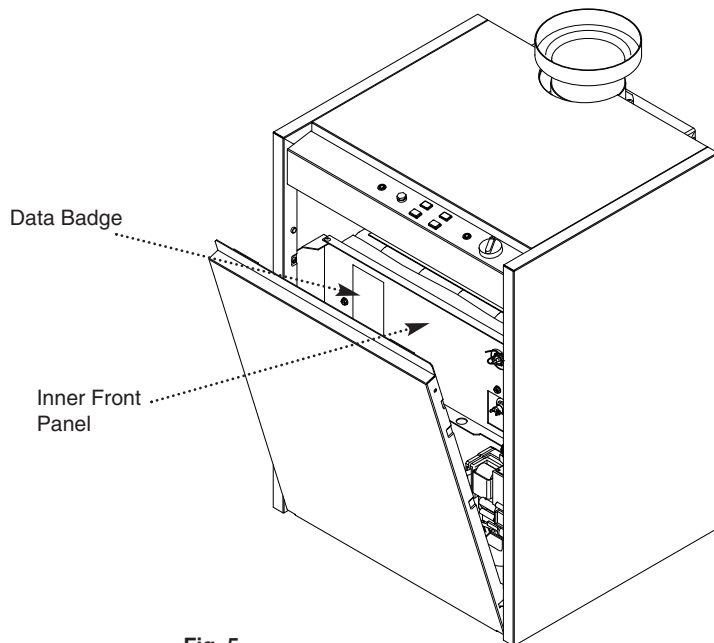

Fig. 5
2. Quote the appliance name, model number and where possible the part number when ordering spares. The appliance data badge is situated as shown in Fig. 5. A short parts list is included in the Installation and Servicing Instructions.